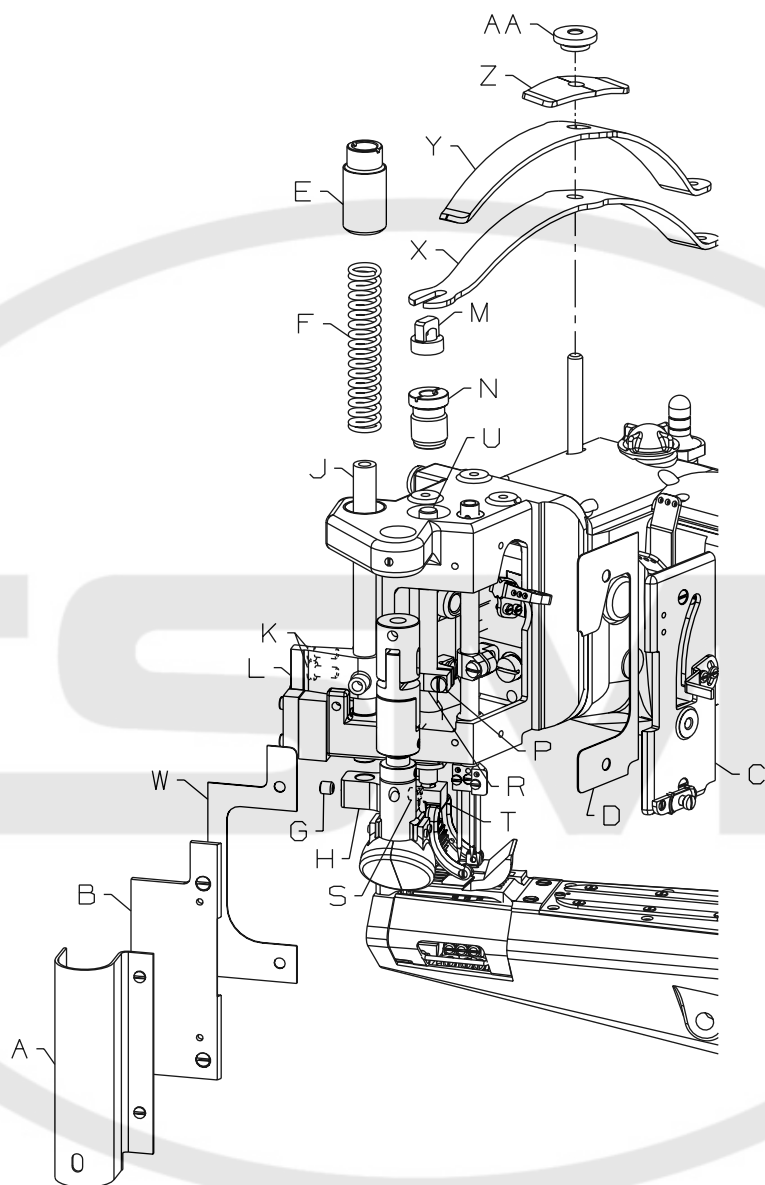

FIG. 1
1. Remove Cover (A, Fig 1).
2. Remove Cover (B, Fig 1).
3. Remove Gasket (W, Fig 1).
4. Remove Front Head Cover (C, Fig 1).
5. Remove Gasket (D, Fig 1).
6. Remove Puller Bar Knob (E, Fig 1).
7. Remove Puller Bar Spring (F, Fig 1).
8. Loosen Puller Bar Clamp Screw (G, Fig 1) in Puller Assembly (H, Fig 1).
9. Loosen Two Puller Bar Clamp Screws (K, Fig 1) In Rear Guide Finger (L, Fig 1).
10. Lift Roller Bar (J, Fig 1) And Remove Puller Assembly (H, Fig 1) From Bar.
11. Remove Roller Bar (J, Fig 1).
12. Remove Presser Regulating Nut (AA, Fig 1).
13. Remove Presser Spring Plate (Z, Fig 1).
14. Remove Presser Spring Upper (Y, Fig 1).
15. Remove Presser Spring Lower (X, Fig 1).
16. Remove Presser Bar Knob (M, Fig 1).
17. Remove Presser Bar Spring And Regulator (N, Fig 1).
18. Loosen Clamp Screw (P, Fig 1) In Presser Bar Lifter And Guide (R, Fig 1).
19. Loosen Presser Foot Clamp Screw (S, Fig 1) In Presser Foot Fork (T, Fig 1).
20. Remove Presser Bar (U, Fig 1).